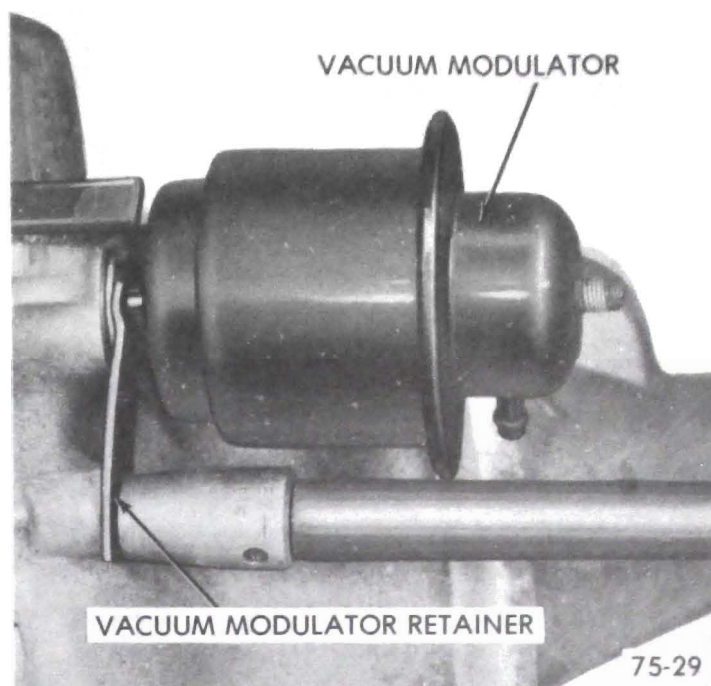

Figure 75-282
4. Install vacuum modulator and retainer clip. Torque bolt to 12 lb.ft. See Figure 75-282.